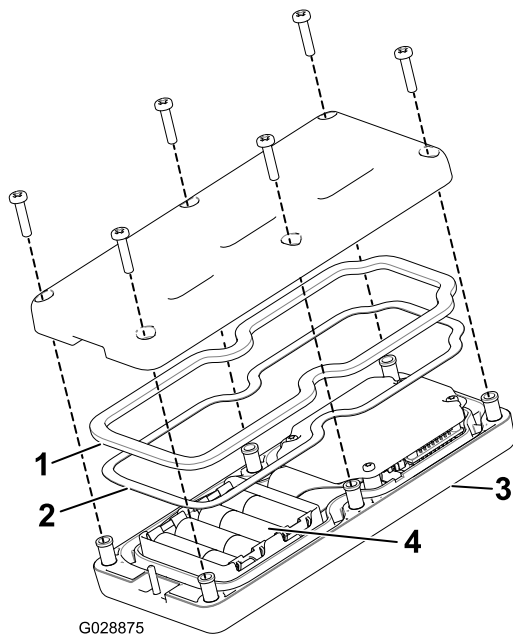

Figure 46
3. Remove the 6 screws from the back of the remote and remove the cover (Figure 46).
5. Plug each fresh battery into a terminal cradle observing proper polarity. (If the batteries are improperly installed, the unit will not be damaged, but it will fail to operate.) The cradle is embossed with polarity markings for each terminal (Figure 46).
6. If you accidentally removed the rubber seal and the steel gasket, replace them carefully into the channel in the handheld remote (Figure 46).
7. Replace the cover and secure it with the 6 screws removed previously (Figure 46) and torque them to 1.5 to 1.7 N-m (13 to 15 in-lb).